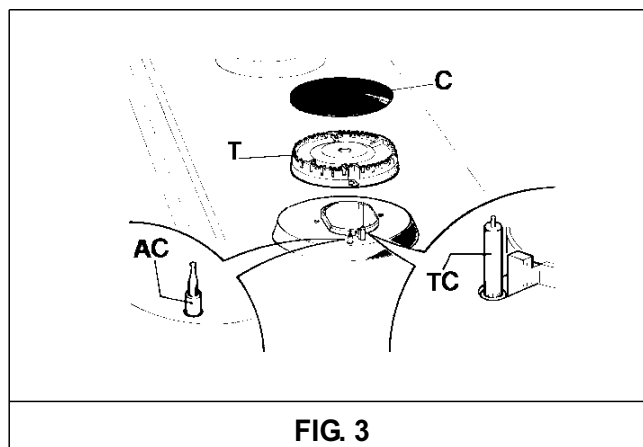

FIG. 3
Periodically wash the hot plate, the enamelled steel pan support, the enamelled burner caps "C" and the burner heads "T" (see fig. 3) with lukewarm soapy water. Following this, all parts should be thoroughly rinsed and dried. Never wash them while they are still warm and never use abrasive powders. Do not allow vinegar, coffee, milk, salted water, lemon or tomato juice from remaining in contact with the enamelled surfaces for long periods of time.
- *check that burner head slots "T" (fig. 3) have not become clogged by foreign bodies.*
- *Check that enamelled burner cap "C" (fig. 3) have correctly positioned on the burner head. It must be steady.*